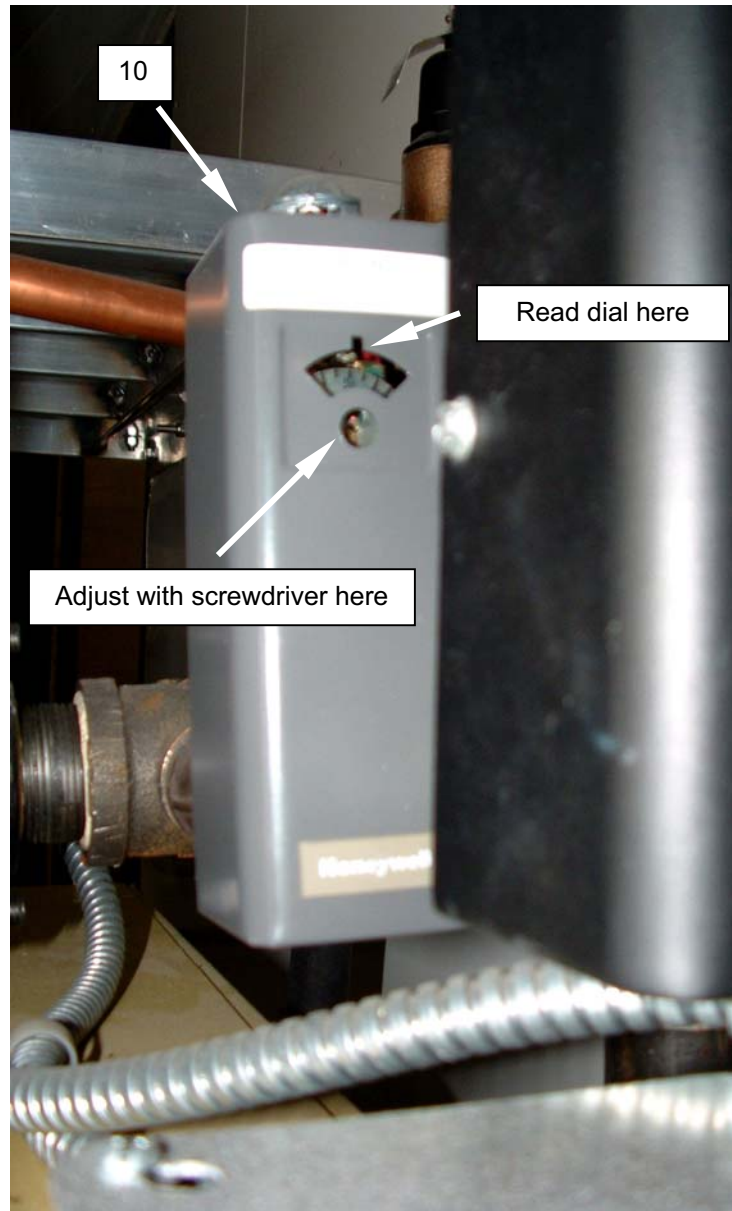

Figure 10. Adjust the High Temperature Cutout.
2. Ensure the dial (**Figure 10, Item 10**) has been set for approximately 210 °F.